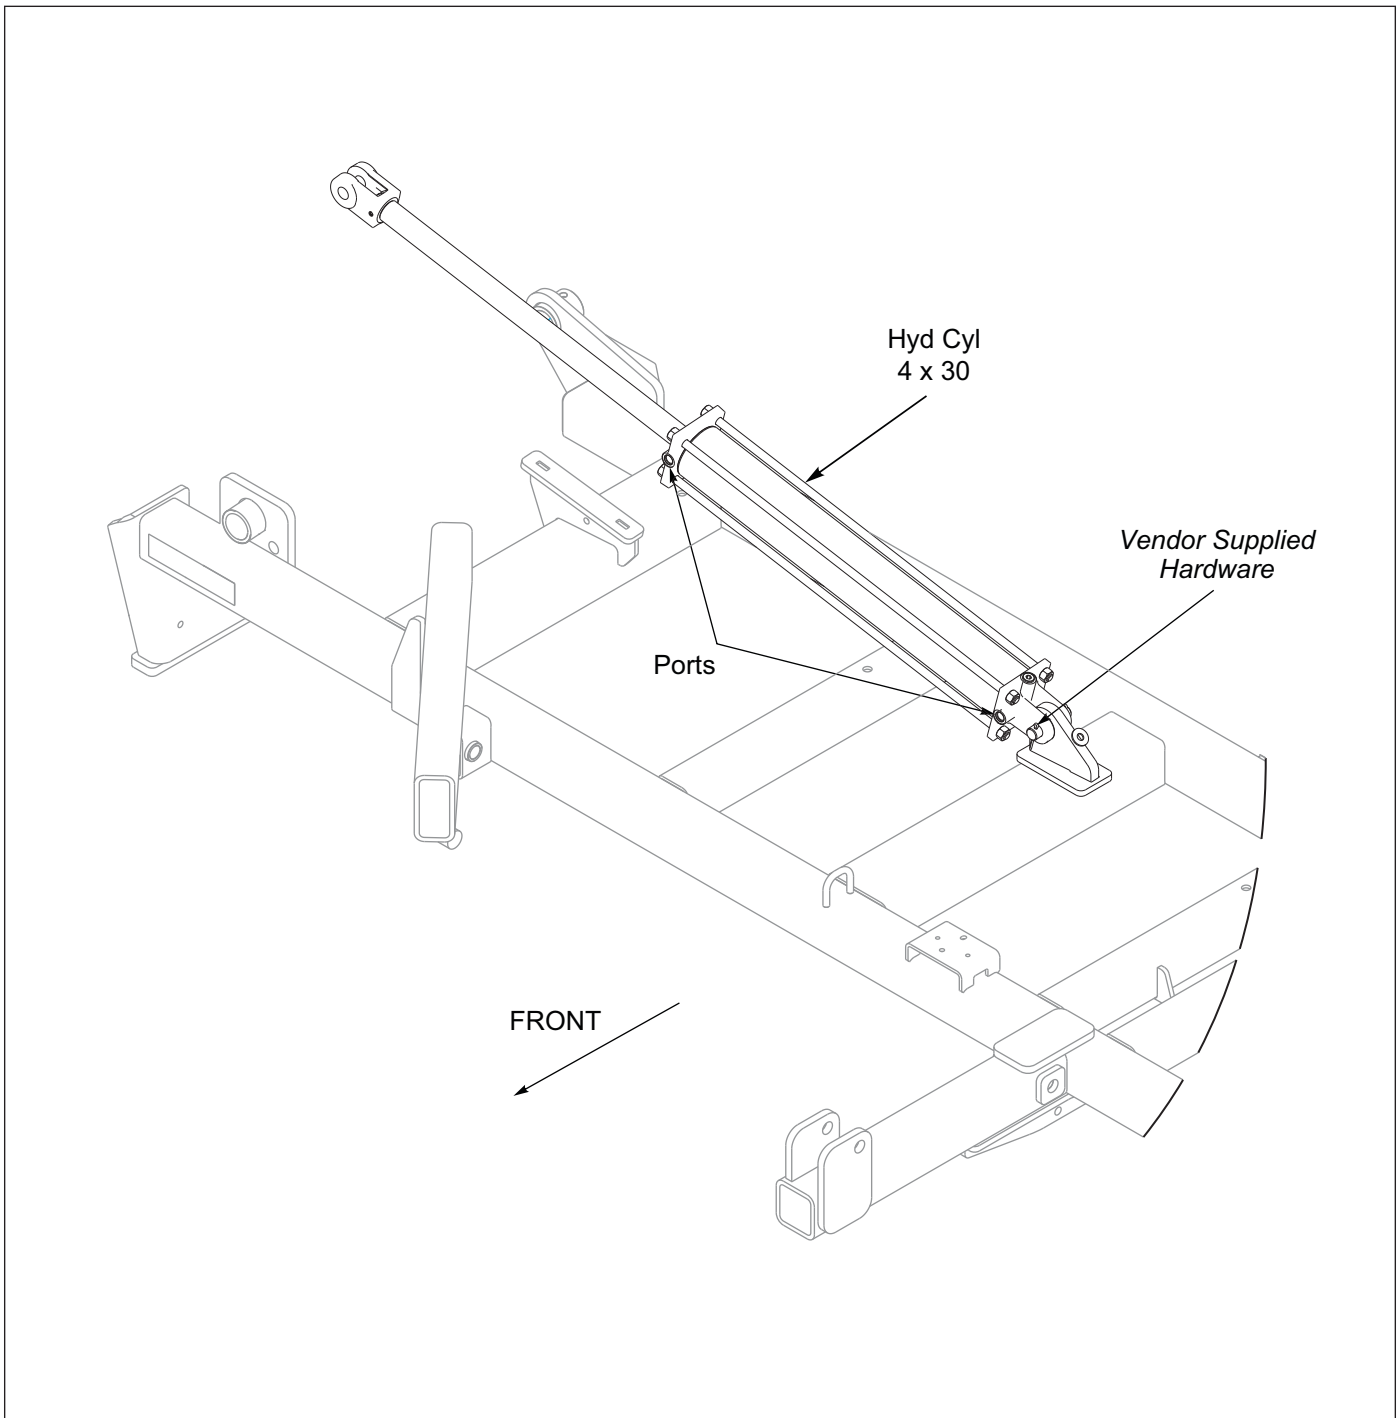

Figure 2-9: Wing Cylinder Installation
1. Install the Wing Fold Hydraulic Cylinders Base End to the center frame lugs with ports facing the front of machine using the vendor supplied hardware. **See Figure 2-9.**